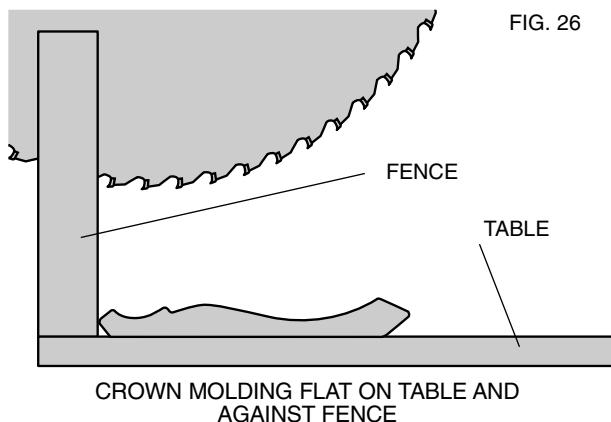

FIG. 26
1. Molding laying with broad back surface down flat on saw table (Fig. 26).